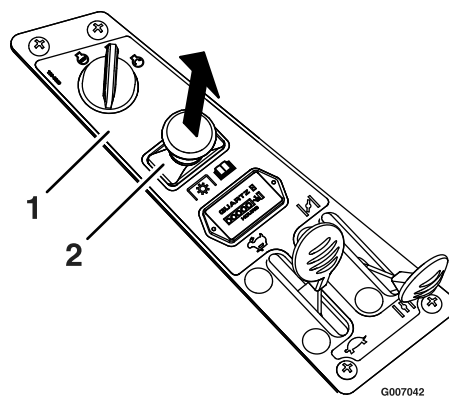

Figure 12
3. Pull out on the blade control switch to On to engage the blades (Figure 12).